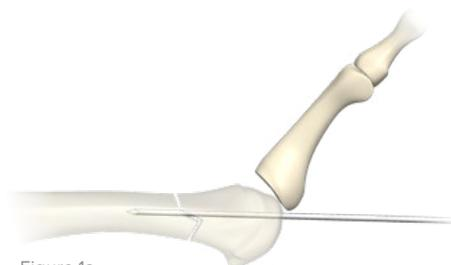

Figure 1a
- Insert the guidewire percutaneously in a retrograde fashion through the distal fracture fragment, targeting the center of the intramedullary canal under multiplanar fluoroscopy. (Figure 1a, Plantar Approach; Figure 1b, Dorsal Approach)